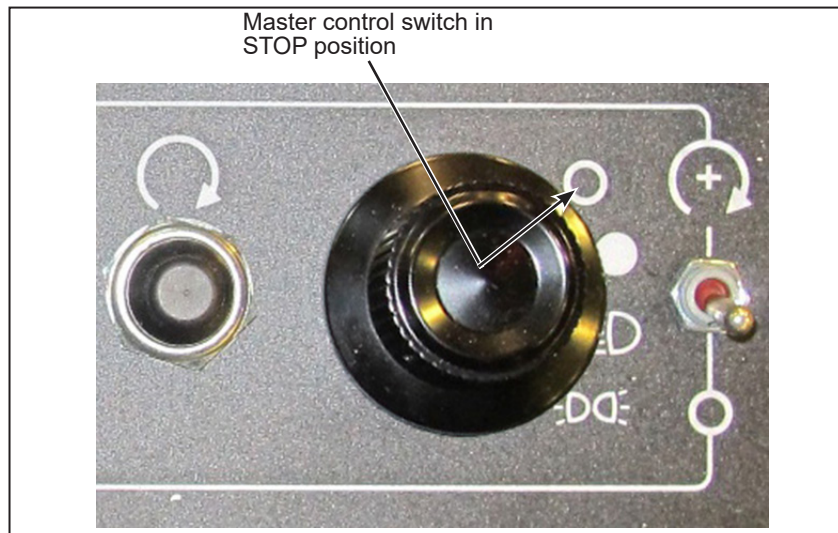

Figure 1 - Master Control Switch in STOP Position
- 1.3. Set the master control switch in the STOP position (see figure 1).